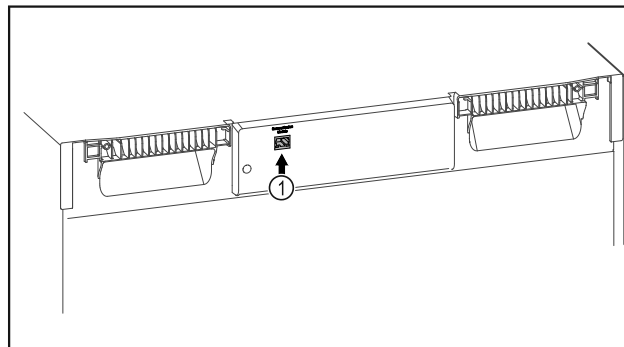

Fig. 87
- SmartModule Fig. 87 (1) is in use.